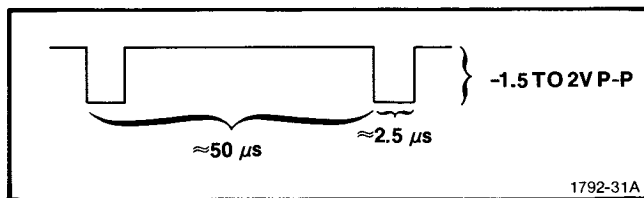

Fig. 4-7. Pulse Generator Output.
45. Set the PG 502 Pulse Generator controls as follows for a generator output pulse as shown in Fig. 4-7.